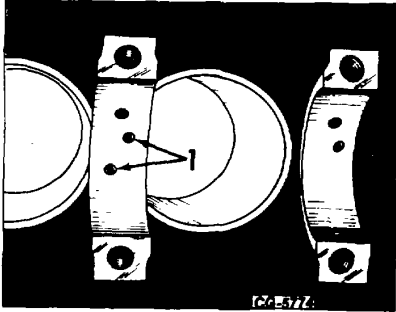

Figure 19. - Piston Oil Jet Tubes
5. Inspect the 12 piston oil jet tubes used in Turbocharged Engines. Be sure they are open and clean as shown in Fig. 19.